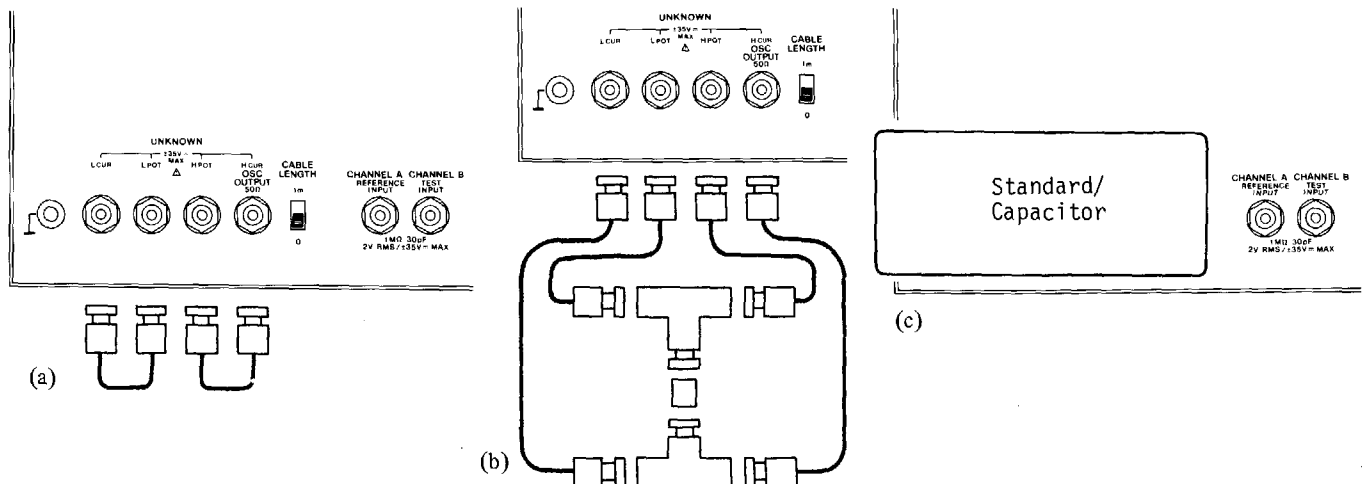

Figure 4-3. Capacitance Accuracy Test Setups
Note: If the OPEN and SHORT terminations are not available, use the test setups shown in Figure 4-3 (a) and (b) for steps b and d, respectively. Equipment required for these alternate test setups is as follows:
- b. Connect the OPEN termination directly to the UNKNOWN terminals as shown in Figure 4-3 (c).
- d. Connect the SHORT termination directly to the UNKNOWN terminals as shown in Figure 4-3 (c).
- f. Connect the 1pF Standard Capacitor directly to the UNKNOWN terminals as shown in Figure 4-3 (c).